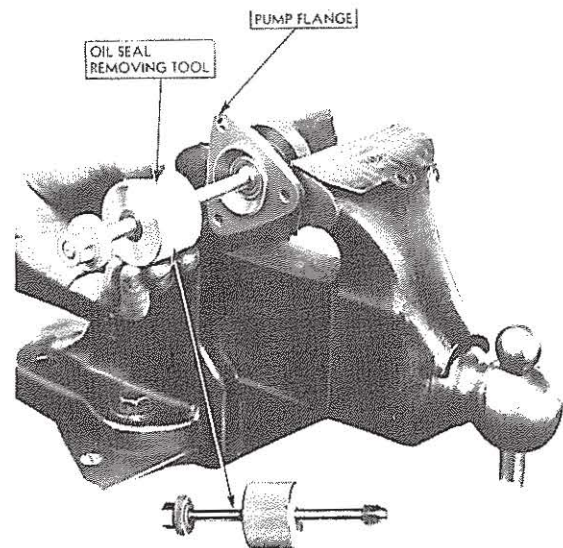

FIG. 3
4. Use new seals when ever pump is dismantled. Oil seals must be removed and replaced with special tools. Figs. 3 and 6.